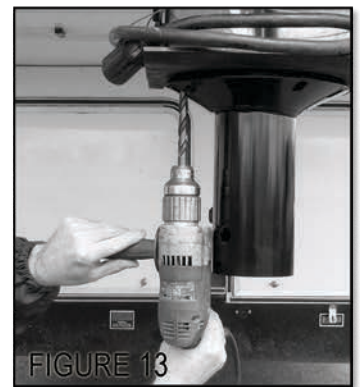

FIGURE 13
8. Locate the grade 8 bolts, lock washers and nuts. There are 8 holes drilled in the Ranch Hitch Adapter Base, but only four need to be used. You will be responsible to choose which 4 holes will be used to accept the Grade 8 Bolts; try to evenly spread the load as much as possible. Take care to locate the bolts where they will not interfere with any gusseting that might be inside the pin box. Drill the four holes. Insert the bolts into each hole and secure with a lock washer and nut. Tighten to 55 ft-lbs (**see Figures 13 and 14 on the following page**). Some pin boxes are enclosed and cannot be accessed for placement of the washers and nuts. In this case, or in any other application, the Grade 8 Bolts can be replaced by 4 one-inch tack welds placed by a certified welder. (**NOTE:** drilling and tapping the pin box metal to accept the grade 8 bolts will not offer sufficient strength and is not acceptable.)